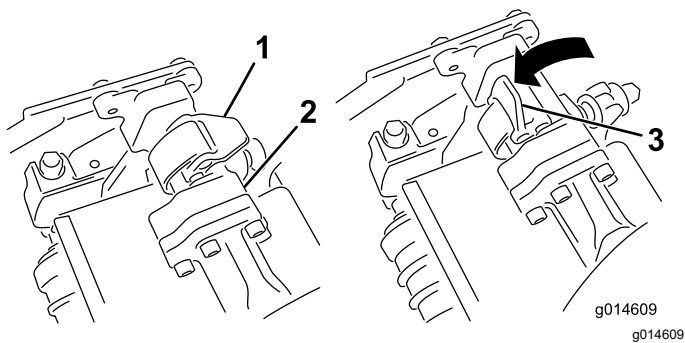
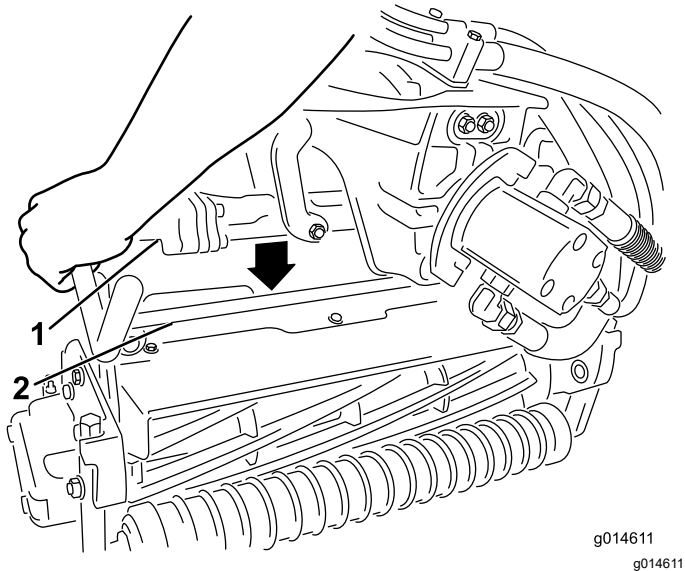

Figure 48
Figure 49
3. With the latches on the suspension-arm bar pointing up (i.e., open) (Figure 48), push the suspension arm down so that the bar fits over the bar across the top of the cutting unit (Figure 49).
4. Close the latches down and around the cutting-unit bar and lock them in place (Figure 48).
4. Open the latches on the suspension-arm bar of the cutting unit you are removing (Figure 48).